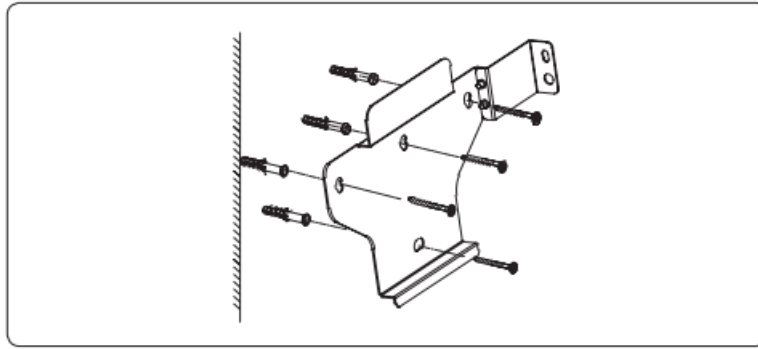

Figure 4-7 Fixing the wall bracket
4. Insert the expansion tubes into the holes and tighten them, then fix the bracket onto the wall with expansion screws by using a cross screwdriver, as shown in Figure 4-7: